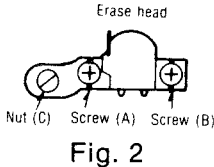
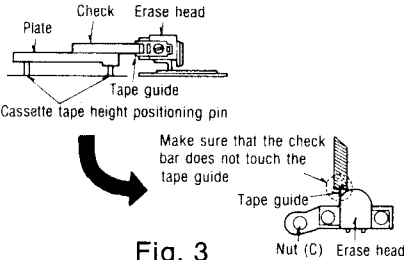

Fig. 2
Fig. 3
<ul style="list-style-type: none"> <li>• Remove 2 screws (F) (see fig. 3).</li> </ul>
Procedure 7	<ul style="list-style-type: none"> <li>• Remove 2 screws (N) and 5 screws (O) (see fig. 2).</li> <li>• Remove 2 screws (D) and 2 screws (H) (see fig. 2).</li> <li>• Remove 2 screws (E) (see fig. 2).</li> <li>• Slide the bottom cover in the direction arrow ① and remove it (see fig. 2).</li> </ul>
Procedure 1 → 4 → 7 → 8	<ul style="list-style-type: none"> <li>• Remove one screw (P) (see fig. 3).</li> <li>• Remove one latch (Q) (see fig. 2 and 4).</li> <li>• Open the lid of connectors A~N, P and V, and extract the flat cable (see fig. 3).</li> <li>• Remove the connectors Q, T and U (see fig. 3).</li> </ul>
- The serial number plate of this product is attached to the back chassis (shown in fig. 2).
1. Adjust nut (C) shown in fig. 2 so that the tape may not get curled or malformed by tape guide of the erase head.